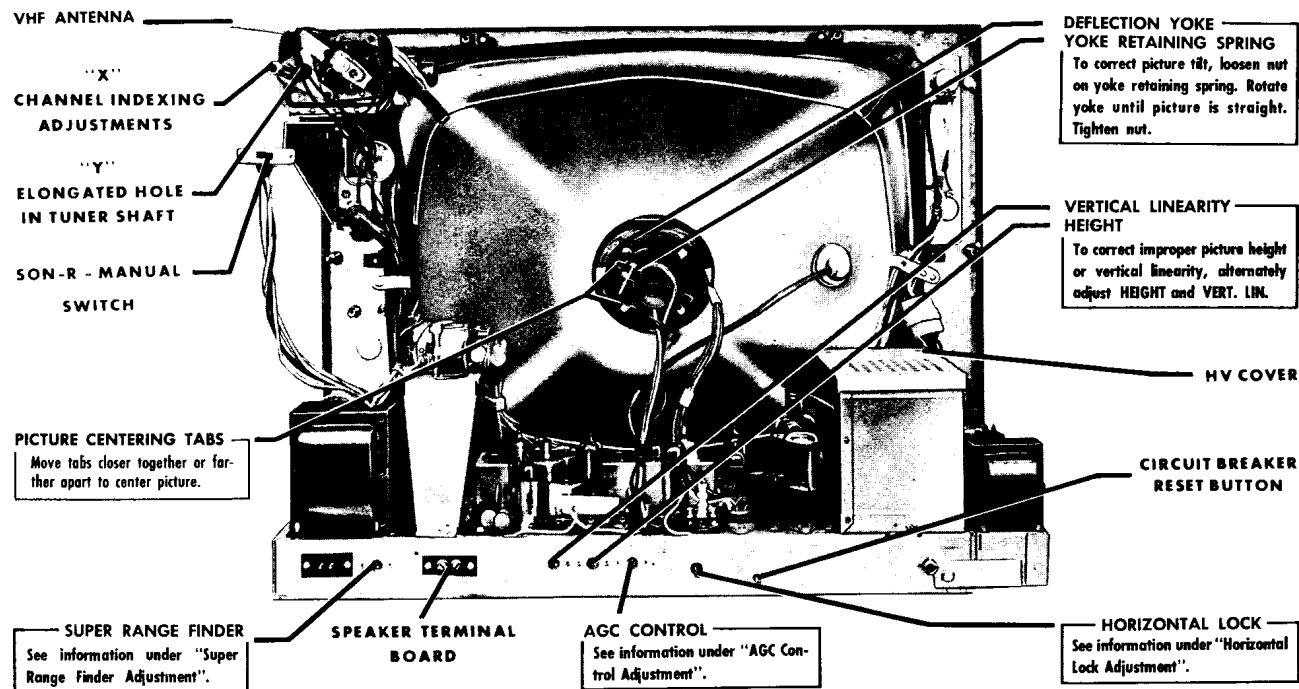

Figure 23. Rear View of 20M6 Chassis Showing Adjustment Locations.
5. At rear of set, carefully insert a 3/16" wide blade screwdriver into elongated hole "Y" extending from end of tuner shaft, see figure 23. When screwdriver engages elongated hole, turn screwdriver until desired channel number appears on channel indicator screen.